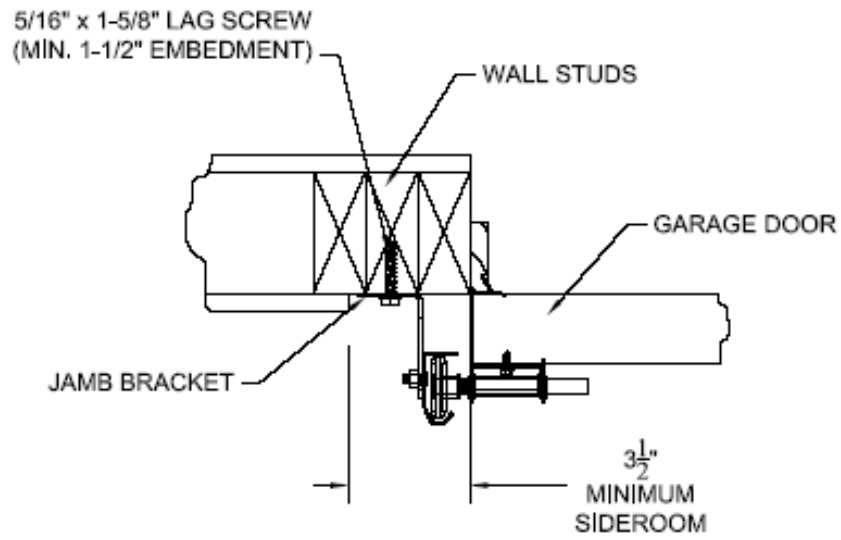
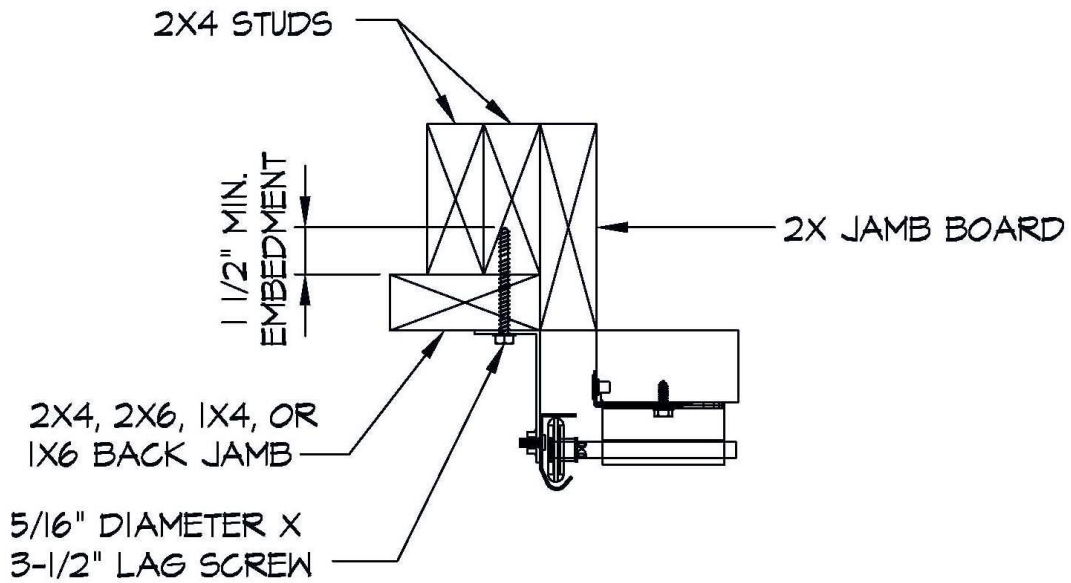

Figure 1: Attachment of garage door brackets directly to wood wall framing (Option 1)
Figure 3: Attachment of garage door brackets directly to structure through wood jamb (Option 3)
1. **Direct attachment of track to wood-framed walls:** Brackets for the vertical tracks and flag angles of the door may be attached directly to the wall framing with the fasteners specified on the design drawings, therefore eliminating the need for the 2x6 wood jamb called for on the design drawings. The attachment of the vertical tracks must be as shown in Figure 1. Track bracket spacing must be as specified in the Installation section of this evaluation report.
3. **Attachment of garage door brackets directly to structure through wood jamb:** Brackets for the vertical tracks and flag angles of the door may be attached directly to the wall framing through the wood back jamb with 5/16" x 3-1/2" lag screws as shown in Figure 3. This configuration will eliminate the need for the back jamb to have additional fastenings to the
5. **Overlap of jamb trim boards:** Doors that are not required to overlap the jamb may overlap jamb trim boards shown in Figures 3 and 4. Jamb trim boards may also be installed on construction types shown in Figures 1 and 2. Doors requiring 1" overlap must have 1" of overlap extending over the framing studs and (or) the wood back jamb when installed over the framing studs. Framing "studs" may also be concrete or steel.